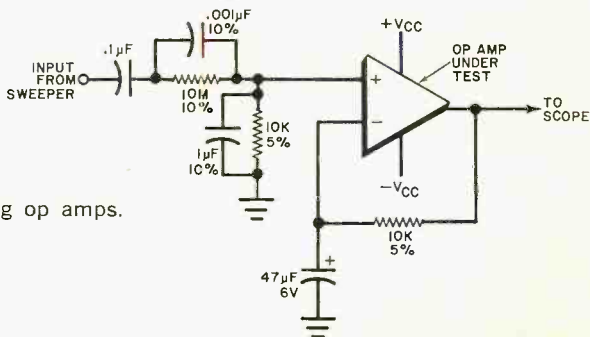

Fig. 9. Test setup for checking op amps.
**Operational Amplifiers.** The setup shown in Fig. 9 can be used in testing the open-loop frequency response of an op amp. Due to the high gain and the dc input offset of the op amp, attenuation of the sweep generator and biasing of the op amp are necessary. The open-loop gain may be flat to a maximum of only 10 to 1000 Hz. Then, a 6-dB per octave rolloff will start. At the frequency at which the gain becomes unity, the 6-dB per octave slope must be maintained for closed-loop stability (freedom from oscillation). Maximum external compensation (for unity closed-loop gain) should be used if the op amp is not internally compensated.
The closed-loop response will depend on the feedback. Generally, the gain and offset problems encountered in open-loop measurements will not arise and the closed-loop test will not require the setup in Fig. 9.